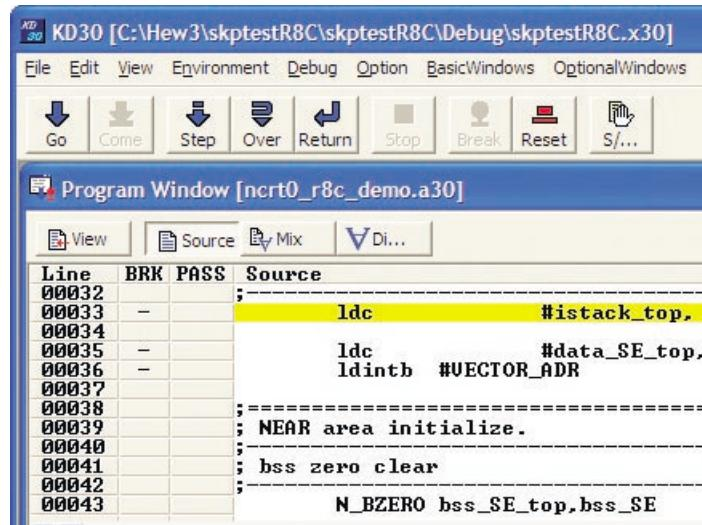

Figure 5. KD30 Program Window after download of skptestR8C
d) After initialization, the KD30 Program Window will appear, and our program, "skptestR8C.x30" is automatically downloaded. The KD30 Program Window should look like Figure 5.